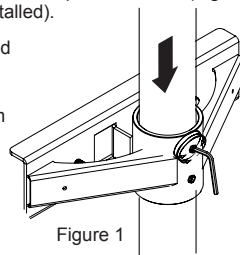

Figure 1
- To adjust to desired size, remove the pre-installed 3/8" x 1/2" button head screws with a 6mm allen key (shown in figure 1 to the right)
- Slide your mounting arm adapter bracket over the pole and base (Figure 1) (not included, but should be previously installed).